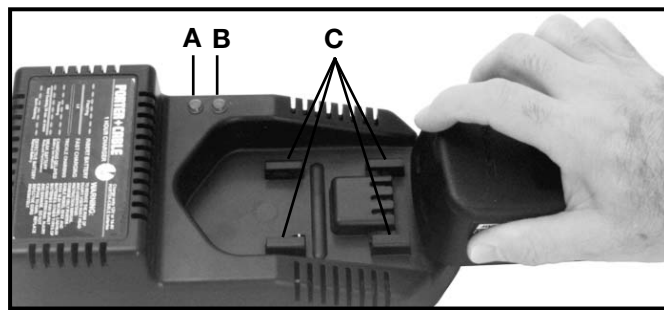
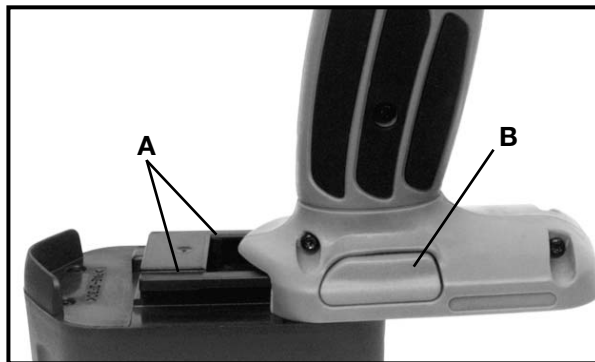

Fig. 5
Fig. 6
Make sure power circuit voltage is the same as that shown on the charger specification plate. Connect charger to power source. The green light (A) Fig. 5, should begin to flash. This indicates the charger is ready to begin charging.
Position battery pack on charger, align rails (A) Fig. 6 on battery pack with four tabs (A) Fig. 5 on charger. Slide battery forward onto charger until it stops.
The green light (A) Fig. 5, should begin to glow continuously, indicating that the battery pack is receiving a "Fast Charge" (if the green light does not glow continuously, or if the red light (B) Fig. 5, also begins to flash: see DIAGNOSTICS). After approximately one hour, the "Fast Charge" indicator light should go out indicating that the battery pack is fully charged and that the charger is now in a "Trickle Charge" mode. The battery pack can be left on "Trickle Charge" until you are ready to use it.
The Models 8604 and 8624 chargers are equipped with a diagnostic system that automatically checks the battery pack each time a pack is inserted into the charger. If no problems are found, the charger will automatically switch to "Fast Charge" mode as described in NORMAL CHARGING. If a problem is found, it will be indicated by the charger indicator lights (see Fig. 5), as follows:
TO REMOVE BATTERY PACK: Depress the battery release button (B) Fig. 6, and pull battery pack out of tool.
TO INSTALL BATTERY PACK: Align rails (A) Fig. 6, on battery pack with slots on tool and push battery pack onto tool until it locks in place.